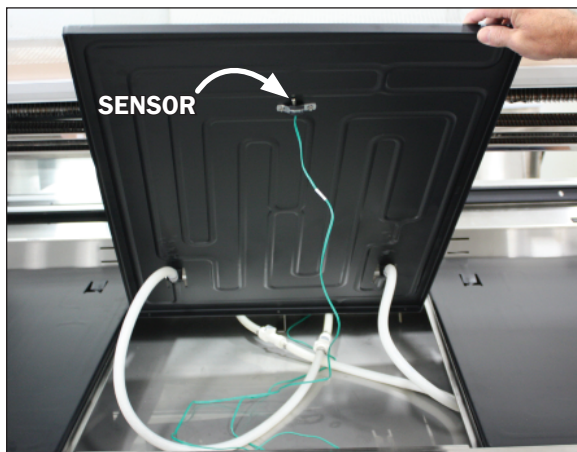

Fig. 24 Coolgenix pan sensor
2. Remove the pan sensor (Fig. 24) located on the center deck pan by sliding the sensor out of the bracket attached to the bottom side of the Coolgenix pan.